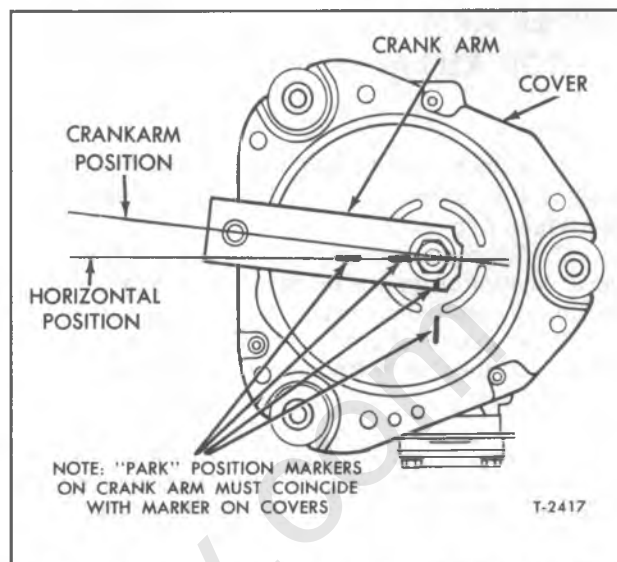

Figure 13—Crank Arm in Park Position (Tilt Cab Model)
4. Before installing wiper arms, operate wiper motor momentarily, then turn it off, which should rotate pivot shaft to "PARK" position (fig. 13).